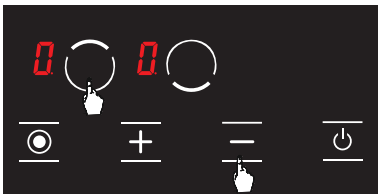

Figure 18
2. Press upper hob selection key (●) and minus key (—) simultaneously. (see Fig. 18) You shall hear a short warning signal at this time. Then, remove your fingers from the stove control panel.